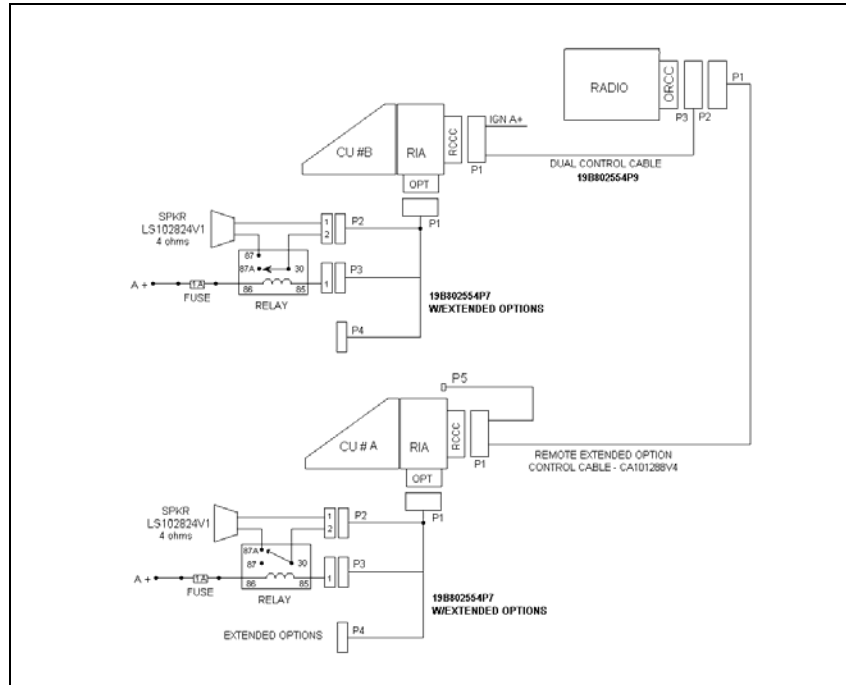

Figure 11-9: M7100 Dual Control Unit Remote/Remote Mount Installation Configuration
1. Referring to Figure 11-9, run the Remote Control Cable (CA101288V4) between locations for the Radio Unit and Main Control Unit.
- B. Hardwire each speaker directly (without relays) as shown in Figure 11-9.
11. Main Control Unit Speaker: Connect the lead nearest the speaker to **Pin 87** of the relay. Connect the lead nearest the connector to Pin 30 of the relay. Connect connector to the accessory cable P2 (refer to Figure 11-9).
12. Auxiliary Control Unit Speaker: Connect the lead nearest the speaker to **Pin 87A** of the relay. Connect the lead nearest the connector to Pin 30 of the relay. Connect the connector to accessory cable P2 (refer to Figure 11-9).
13. For Each Relay: Connect a #18 AWG black wire between the relay, Pin 85 and accessory cable P3-1 (labeled **"OUT2"** on schematic diagrams in the maintenance manual). Use a 1/4" tab receptacle on the relay side and a mating Molex connector and pins on the accessory cable side. Connect the mating Molex connector to the accessory cable P3 when finished (refer to Figure 11-9).
14. For Each Relay: Connect one end of a #18 AWG red wire to the relay, Pin 86. Cut the lead to length, and connect the other end to the 1 amp fuse holder supplied. Use crimp on connectors supplied. Connect the other side of the 1 amp fuse holder to the A+ battery source or a vehicle A+ fuse block. Use a #18 AWG red wire and a ring lug supplied, if needed (refer to Figure 11-9).